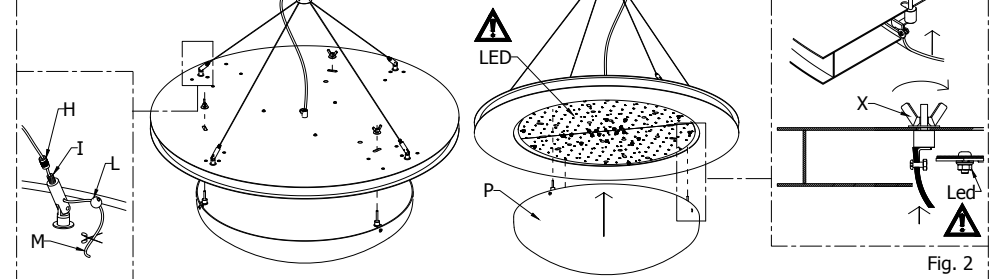

Fig. 2
- If necessary, regulate the structure by loosening the screw of the safety cable gripper lock screw (L), unscrew the detail (H), regulate the steel cable (M) by pressing the detail (I) and then close again the detail (H). Replace the safety cable gripper lock screw (L) and screw the screw. Cut the cable in excess (Fig. 2).
- Insert the dome (P) in the central hole of the frame, inserting the pins (W) into the slots, tighten the nuts (X). (Fig.2)